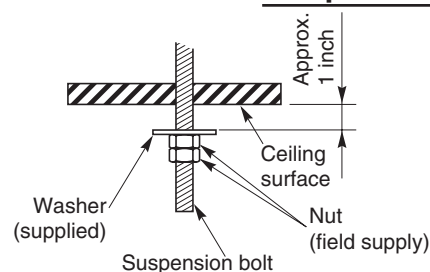

Fig. 1-58
(7) Suspend the indoor unit as follows.
- Mount a washer and two hexagonal nuts on each suspension bolt as shown in Fig. 1-58.